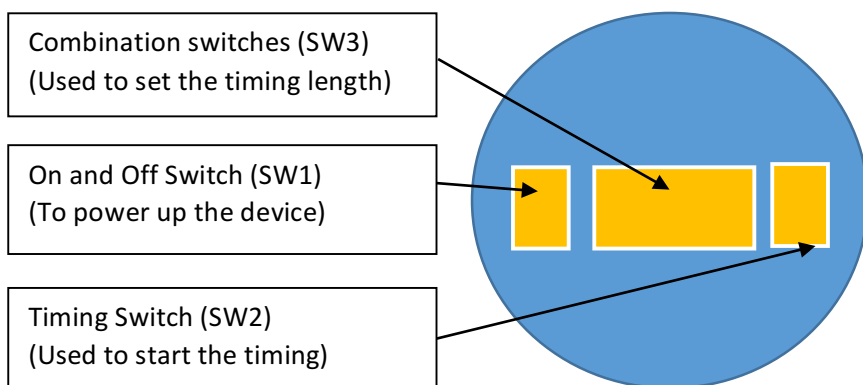
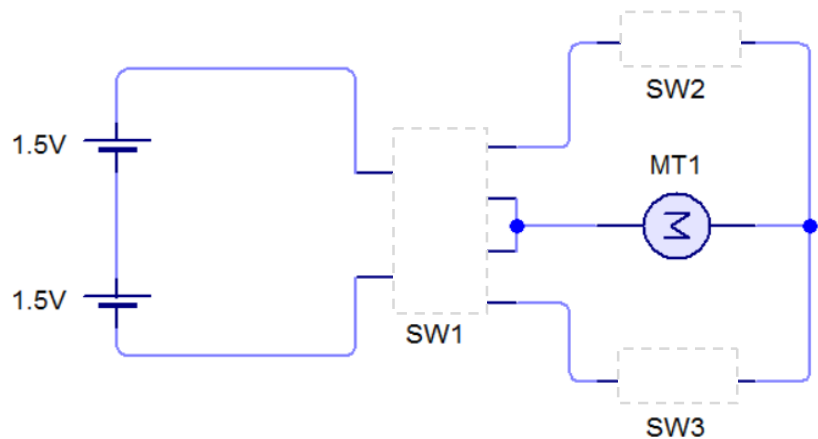

Figure 4 – bottom of egg timer device
Figure 7 – Circuit 4 amended
- c) The circuit shown in figure 4 has been edited by adding two more switches SW2 and SW3, as shown in figure 7. The purpose of these switches is to turn off the motor when the door has been completely open or shut. These switches will disable the operation of a particular rotation operated from switch SW1.
- i) What type of switches are used for SW2 and SW3 in figure 7?